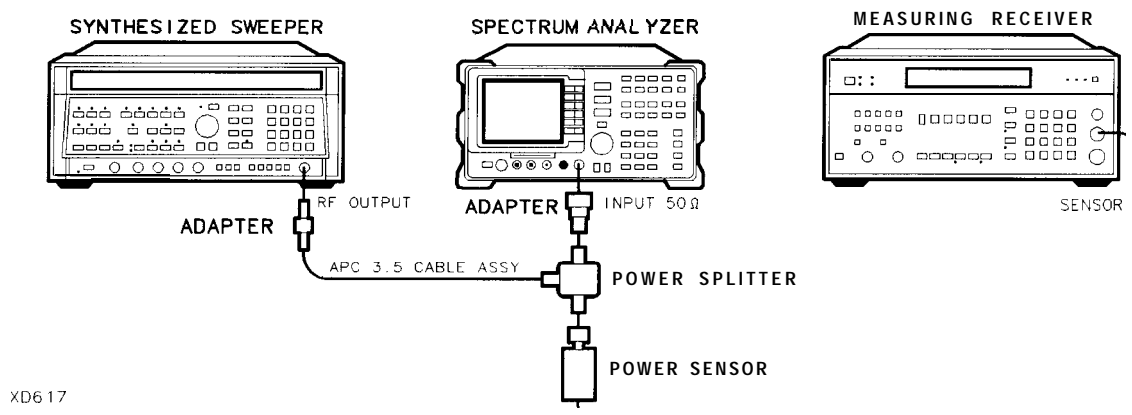

Figure 2-32. Frequency Response Test Setup,  $\geq 50$  MHz
2. Connect the equipment as shown in Figure 2-32.